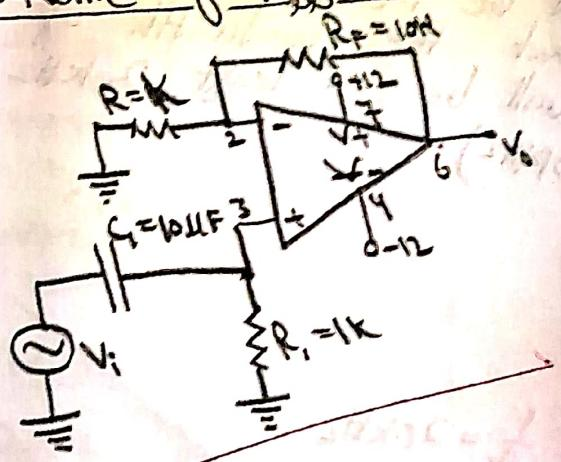

Fig. 2: Active High Pass Filter
1. Assemble the circuit as shown in Fig.2. Make sure the power supply ( $\pm 12V$ ) ground is connected to circuit ground.